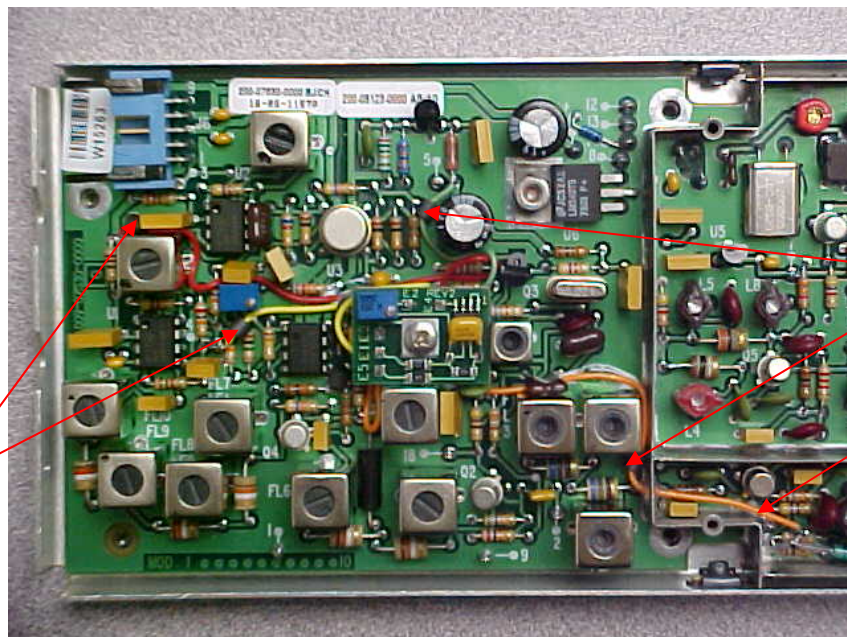

Figure 2
7. Reorient the AGC board as pictured in Figure 2 and secure it into place using the original screw.
9. Position the orange wire so that it rests next to the fence as shown in Figure 2.